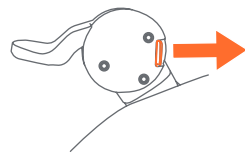

Fig. 2b
- To remove, push tab outward and pull wheel from hub (Fig. 2b).